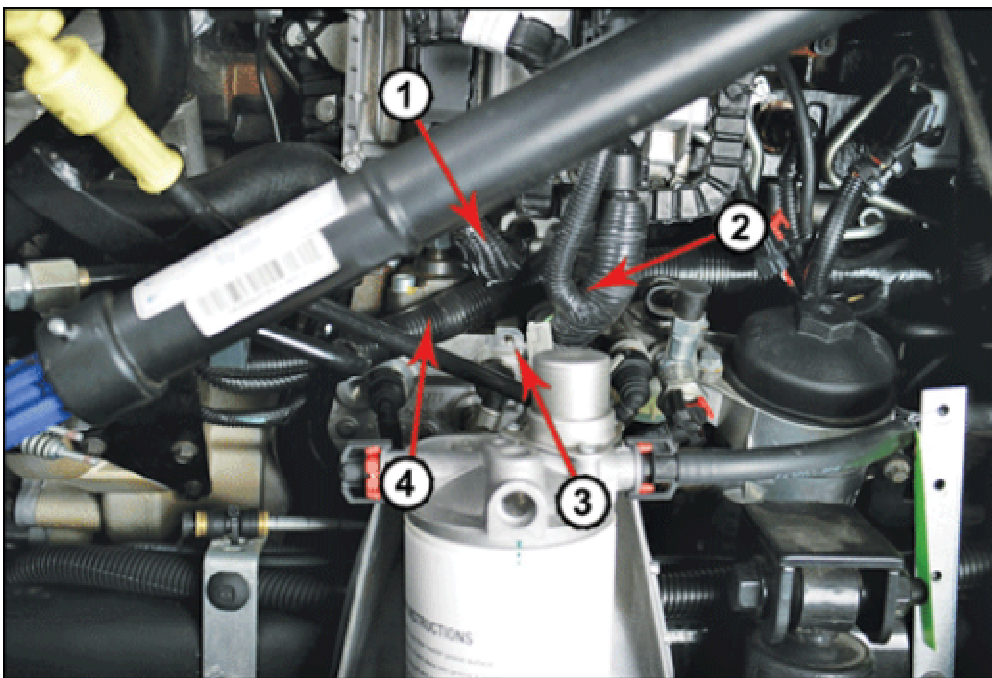

Figure 13
12. Insert a second cable strap around the strain-relief bracket and around the chassis-to-ECM harness and tighten the cable strap enough to lift the harness off the pump screw boss (Figure 13).